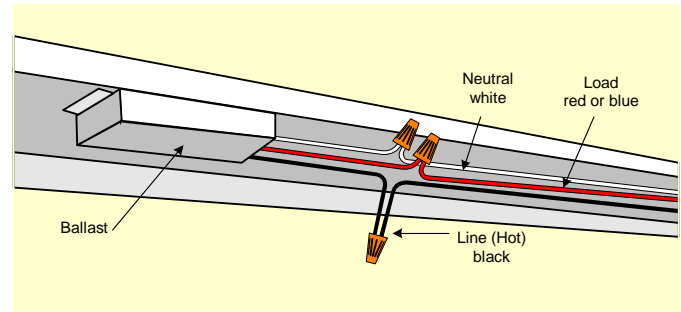

Figure 1: Locate the Line voltage (black) wire
2. Open the device's enclosure and locate the black wire that supplies line (hot) voltage to the device (see Figure 1).